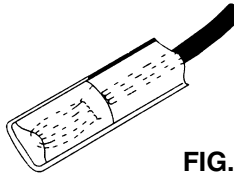

FIG. 3
7. Slowly insert connection into sealing pack until it fits snugly against the opposite end. (FIG. 3)